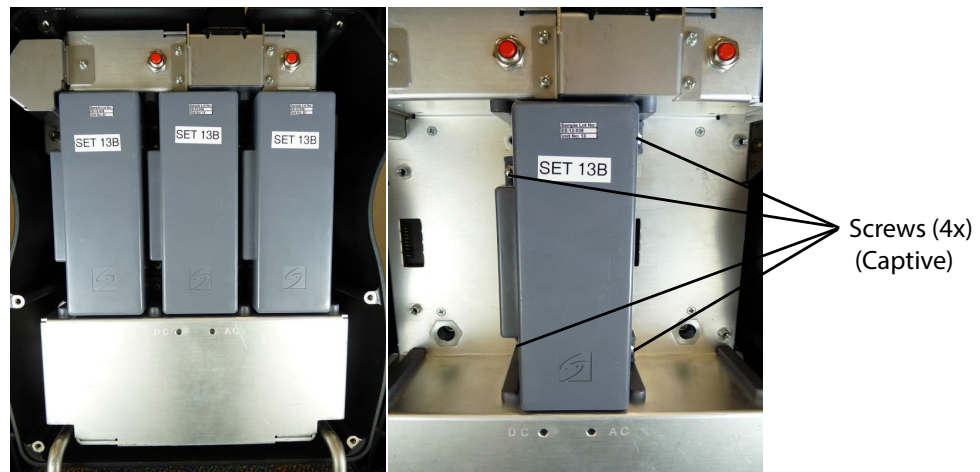
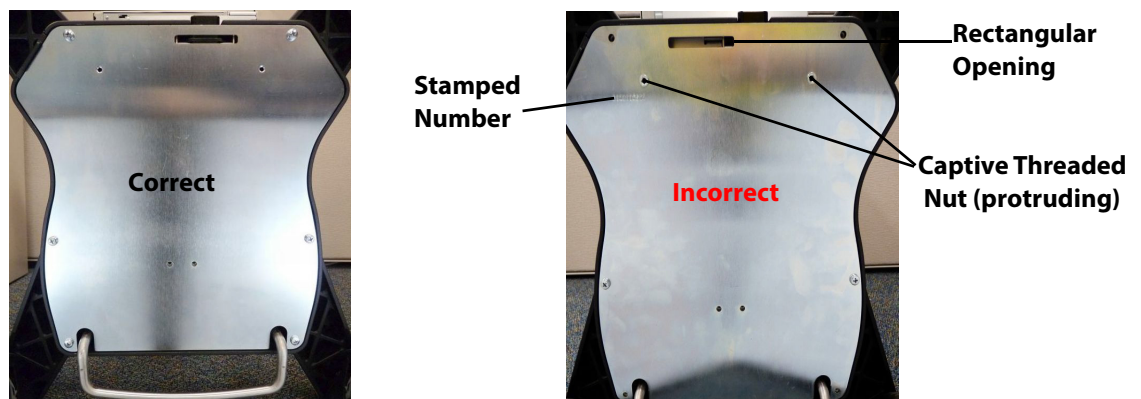

Figure 6.13 Batteries
Figure 6.17 Correct Bottom Plate Orientation
- 13 Remove the three batteries mounted to the SPMU by loosening the four captive Phillips screws holding each battery and pull each battery off of the SPMU. Refer to Figure 6.13 on page 44.
Note: The Bottom Plate will mount inside out. When the Bottom Plate is incorrectly mounted, the PowerPark will not connect to the stand. Please ensure that the Bottom Plate has the top opening under the AC power cord IEC socket and that the two captive thread areas are not protruding out of the stand base. Refer to Figure 6.17 on page 46
- 2 Tighten the captive battery retention screws and the six M5 x 8 Phillips screws for the bottom stand plate to 20-inch pounds. Refer to Figure 6.13 on page 44 and Figure 6.17 on page 46